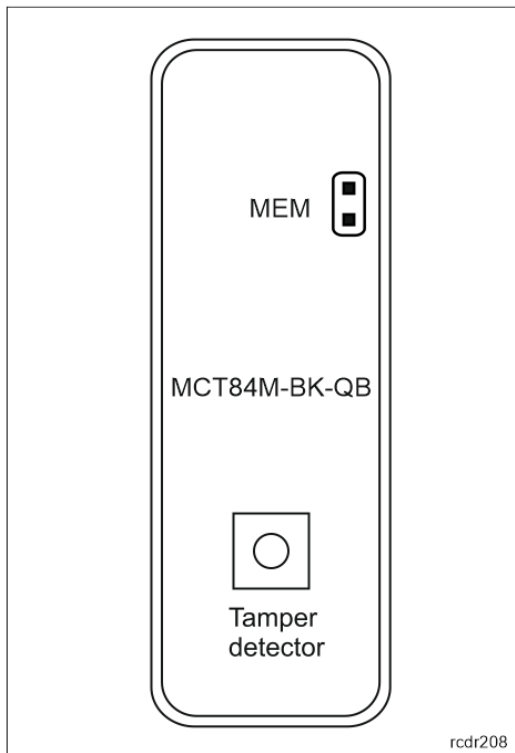

Fig. 4 Programming jumpers
Built-in tamper (sabotage) detector enables detection of unauthorized opening of device's enclosure as well as detachment of the enclosure from wall. The detector is internally connected to the terminal's input. It does not require low level configuration or any additional installation arrangements, but it is essential to mount front panel in such way as the tamper detector (fig. 4) would firmly press the back panel. The detector requires high level configuration which consists in assignment of the function [133] *Tamper Toggle* on the level of a *Main Board* of a controller in VISO software navigation tree.
- Front panel should be attached in such way as the tamper detector (fig. 4) would firmly press the back panel.
In RACS 5 v2 system the reader can be installed at site without previous configuration. According to AN006 application note, its address and other settings can be configured from VISO v2 management software and during such configuration the access to its service contacts (fig. 4) is not required.
2. Remove jumper from MEM contacts (fig. 4) if it is placed there.